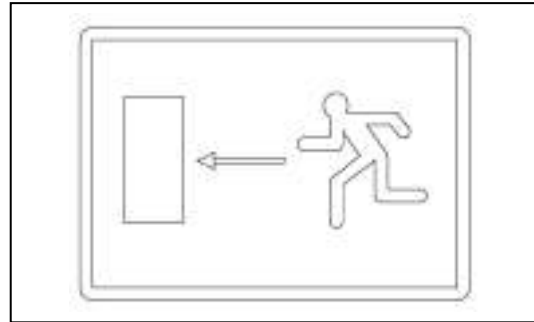

Figure 1-11 Escape hatch
(10) Escape hatch, as shown in Figure 1-11.